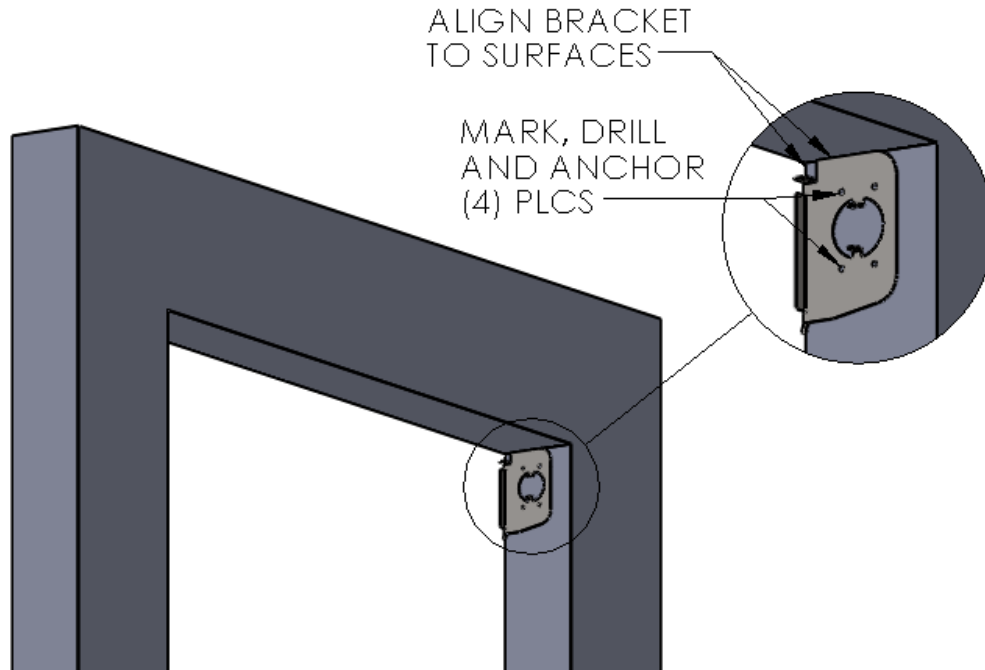

Figure 2 LOCATE & INSTALL R.H. HEADER MOUNTING BRACKET
2. At the upper right of the opening, use the R.H. Header Mounting Bracket to transfer the hole locations to the mounting surface, and install this bracket. (Figure 2 LOCATE & INSTALL R.H. HEADER MOUNTING BRACKET)